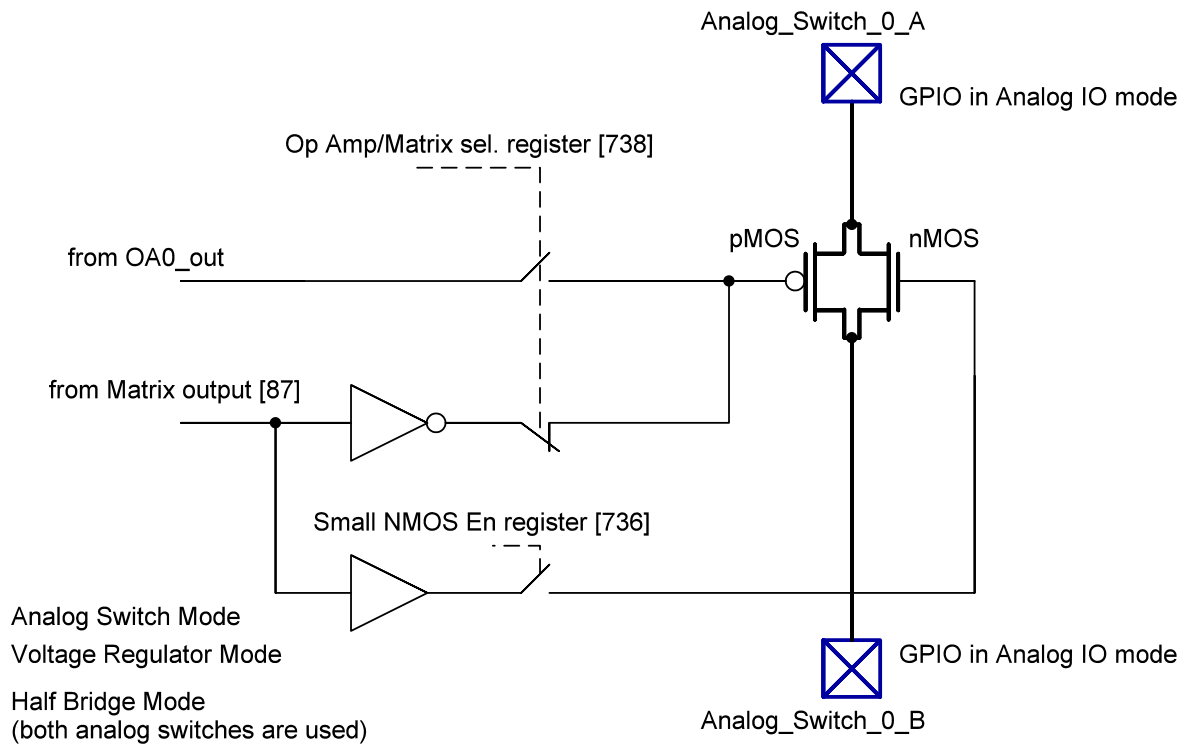
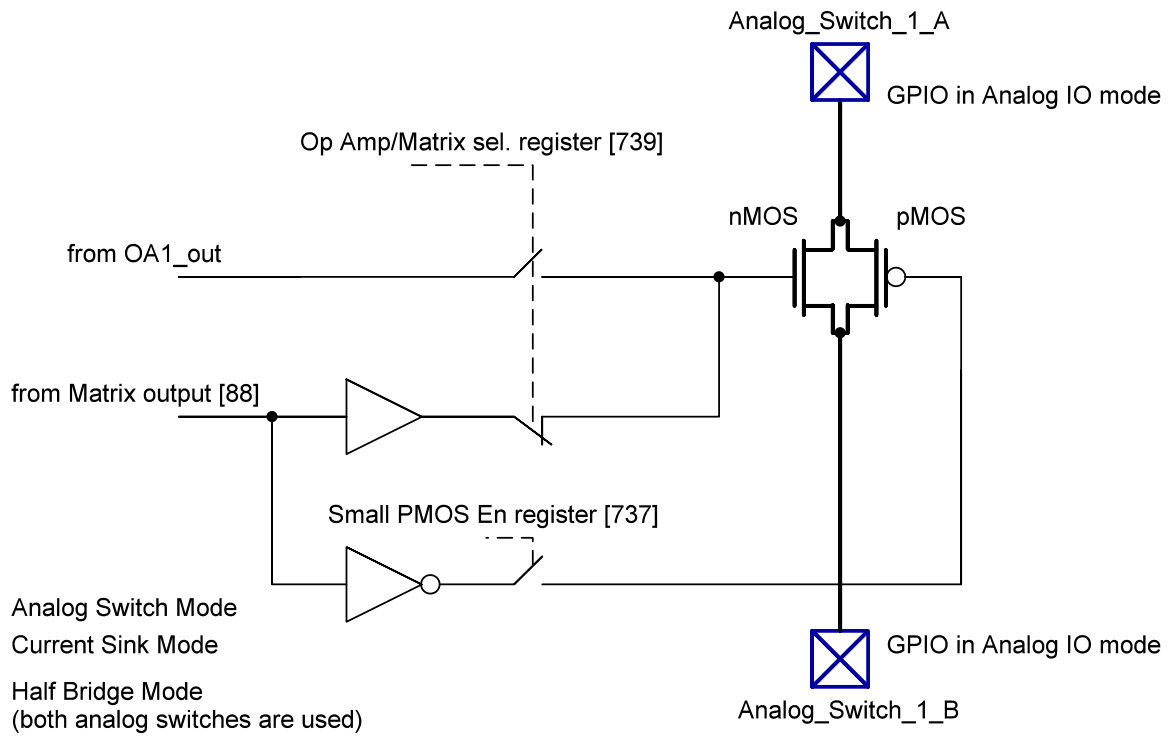

Figure 166. Analog Switch 0 Control Circuit
Figure 167. Analog Switch 1 Control Circuit
The SLG47004-A contains two single-pole/single throw (SPST) normally open analog switches (AS). The structure of the Analog Switches is shown in Figure 166 and Figure 167.